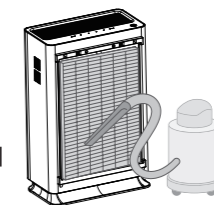

Figure 1
4. Clean the surface of the filter with a vacuum. [Figure 1]